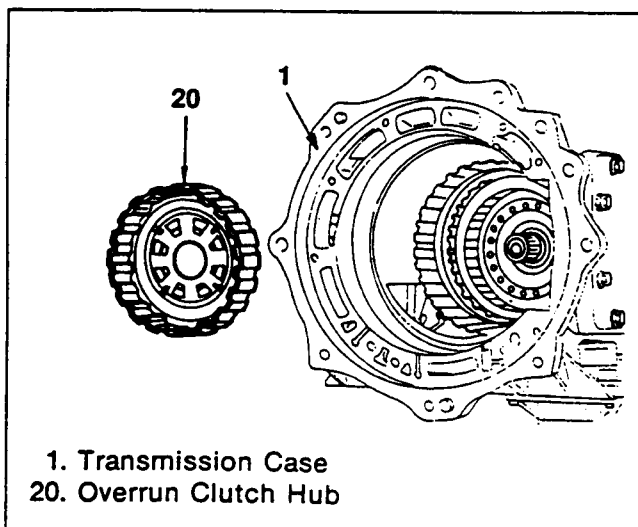

Figure 257. Overrun Clutch Hub Installation (2)
2. Install overrun clutch hub to the forward clutch assembly (figure 257).